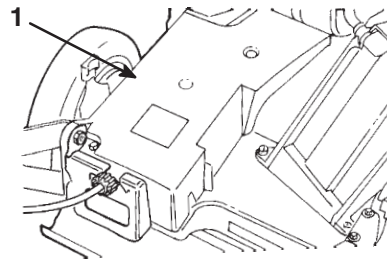

Figure 31
- Remove the bolts that secure the belt cover (Fig. 31) to the lawn mower housing.